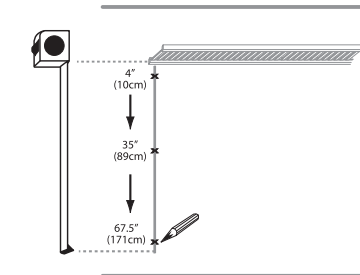

FIG. 2.3
- Mark the line at 3", 35" and 67.5" down from the bottom of the top shelf. (Fig. 2.3)